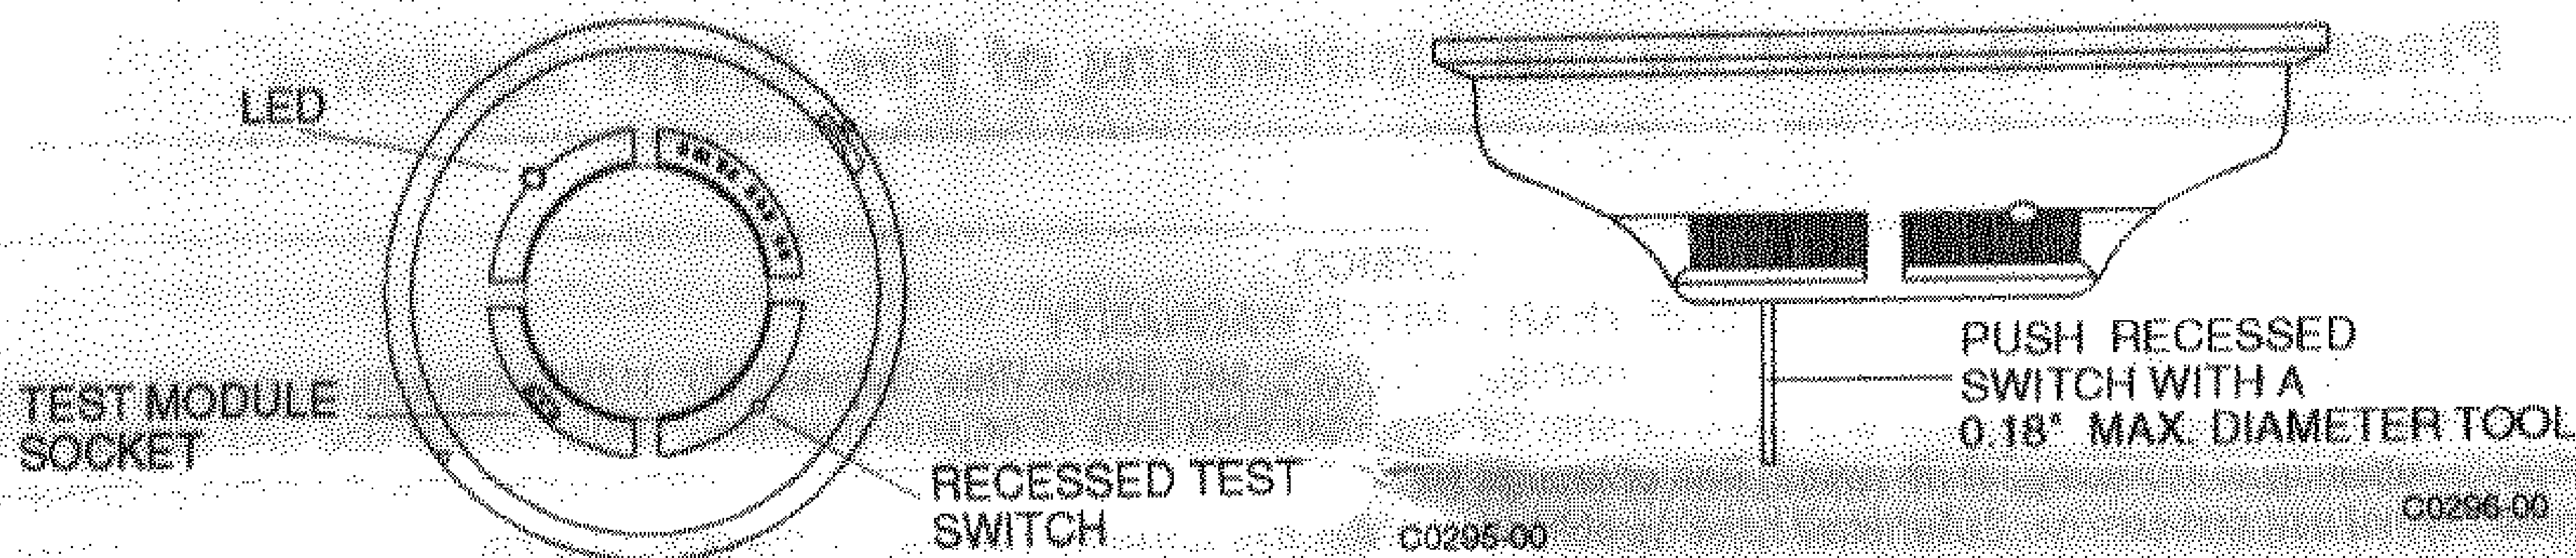

Figure 4. Top and side views showing test switch location
1. Press and hold the recessed test switch, located on the detector housing (see Figure 4), for 5 seconds with a 0.18 inch maximum diameter tool such as an Allen wrench or small screwdriver.